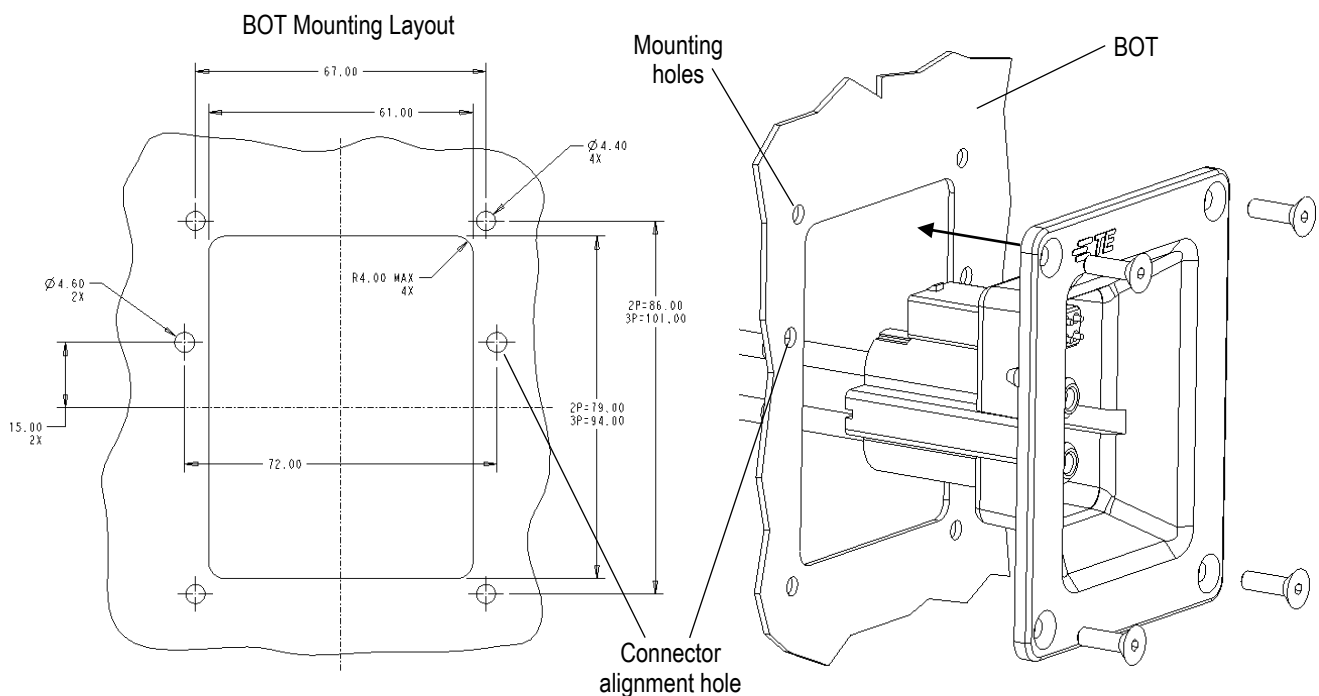

Figure 6
A. AMR BOT connector mounting: A flat surface shall be provided to mount AMR BOT connector assembly with customer supplied hardware. To provide solid mounting, it is recommended that the surfaces between connector assembly and BOT housing are clean and free from any debris. The connector housing has four mounting holes which accept 4mm or #8 size screws. A screw with a countersunk style head (90° angle) should be used. Screws of the appropriate length and type must be determined by the BOT manufacturer. Screw torque of 1.0 to 2.0 N-m is recommended. Do NOT exceed 3.0 N-m torque. It is recommended that the BOT connector to be mounted with the molded TE logo in the top location but is not absolutely necessary. Care should be taken to ensure correct orientation of corresponding AMR charger connector. BOT connector has alignment posts molded on the housing to polarize the mounting direction. See Figure 6